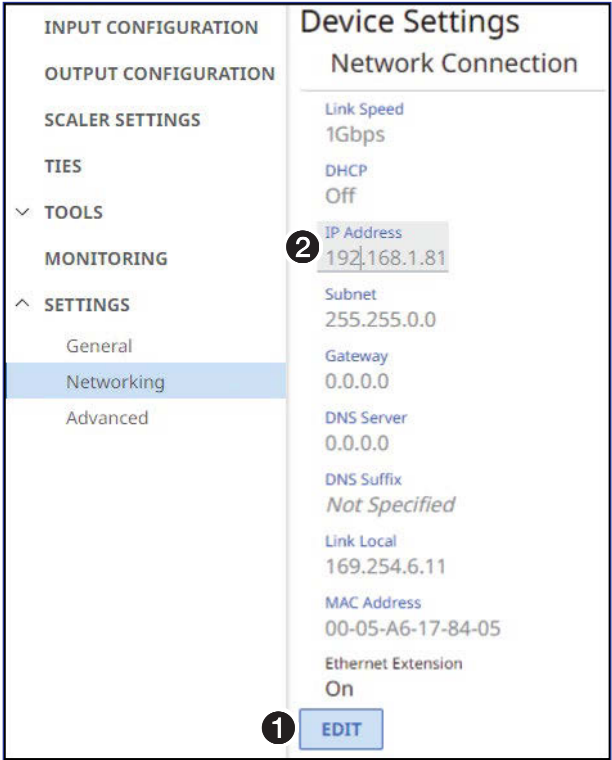

Figure 6. Network Connection Pane
- 2. Click the **Network Connection** drop-down list (②). The Network Connection pane opens (see figure 6), showing protected views of the network connection settings.
- 3. To change the settings, click **Edit** (see figure 6, ①). The Edit button changes to **Save**.
- 4. Click in the desired field (②) and edit it as necessary.